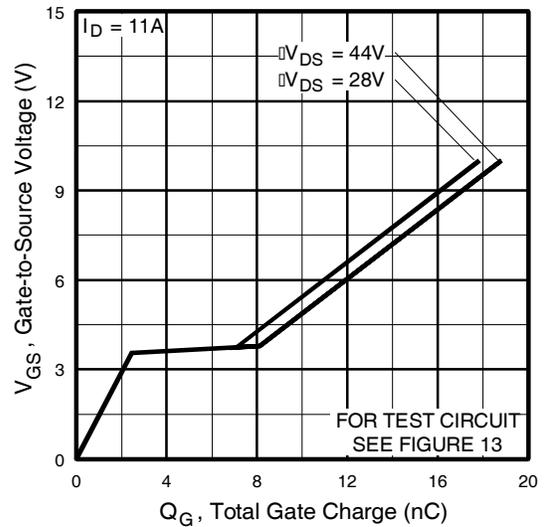

Fig 6. Typical Gate Charge Vs. Gate-to-Source Voltage
| Q_{gd} | Gate-to-Drain ("Miller") Charge | — | — | 8.5 | | $V_{GS} = 5.0V$, See Fig. 6 and 13 ④ ⑥ |